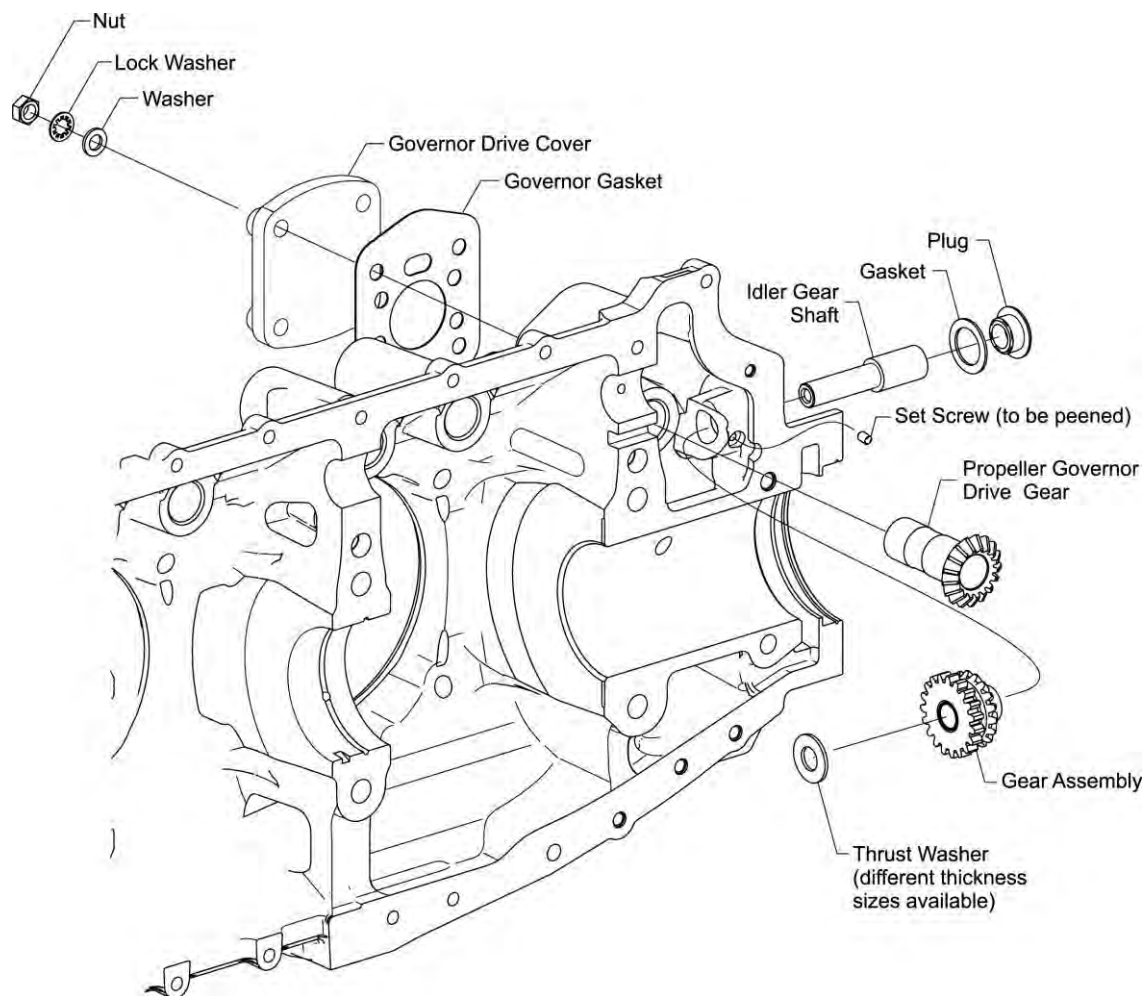

Figure 12
- (1) Remove the plug and gasket from the propeller governor idler gear shaft (Figure 12). Discard the gasket.
- (2) Remove and discard the set screw from the propeller governor idler gear shaft. If the set screw was peened or staked in the hole, remove any debris.
- (3) Support the propeller governor idler gear shaft assembly and, simultaneously remove the idler gear shaft, gear assembly, and thrust washer. Discard the thrust washer.
- (4) Pull the propeller governor drive gear away from the crankcase.
- (5) Remove the gear assembly and thrust washer.
- (6) Remove the four nuts, lock washers and washers (Figure 12) from the propeller governor drive cover. Discard the lock washers.
- (7) Remove the governor drive cover and governor gasket. Discard the governor gasket.